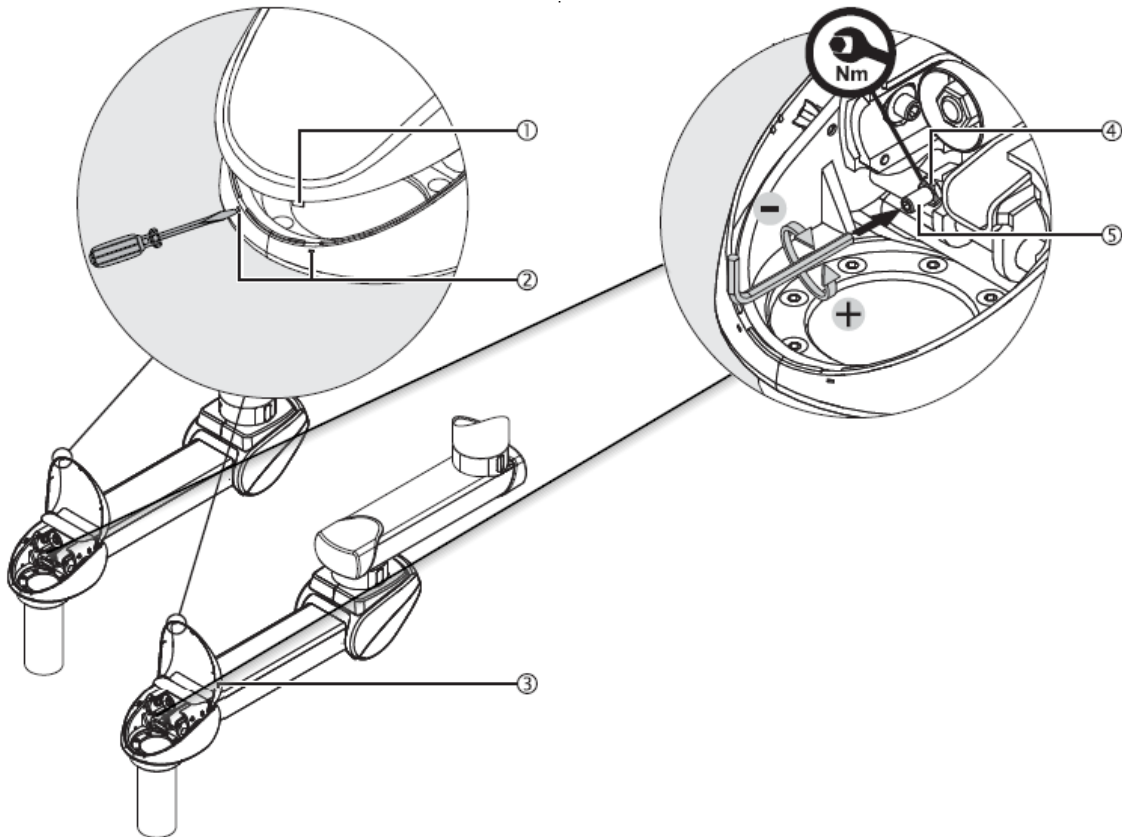

Fig.16 Adjusting the vertical lift on a spring arm
- Release the 4 threaded bolts M8 x 80 ② securing the service head.
- Carefully pass the new hoses ① through the pendant system and onto the interface plate as shown in figure 16.